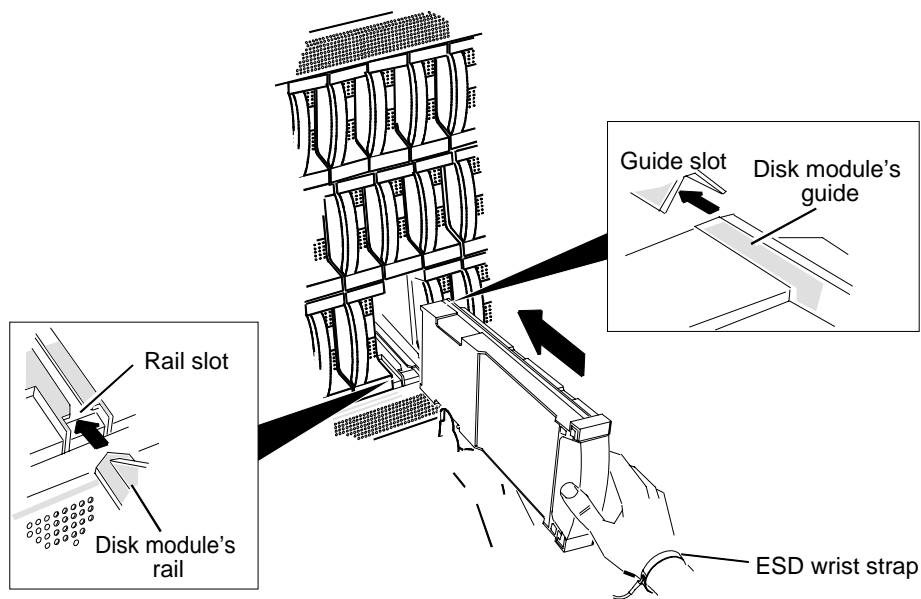

Figure 17. Installing a disk module
- Locate the slot where the disk module is to be installed (see figure 17).